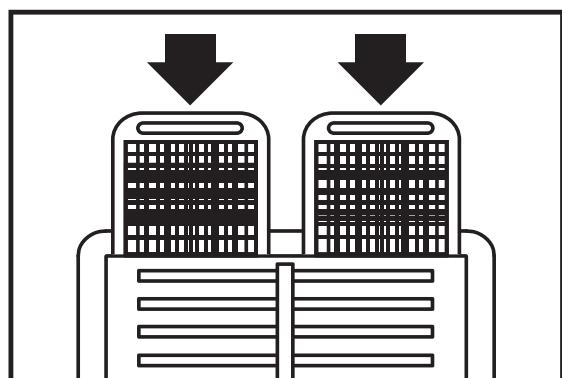

Fig. 16
- **5.2.4.** Place the filter back into its housing (Fig. 16).